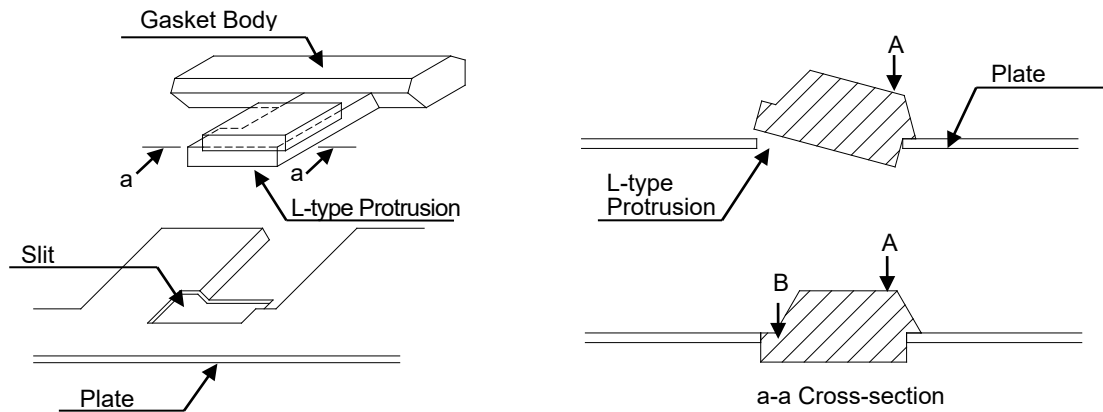

Fig. 2 Procedures for Setting L-type Protrusions
- 1) Press the gasket protrusion at point A by hand for inserting into the slit (hole) on the plate as shown in Fig. 2.